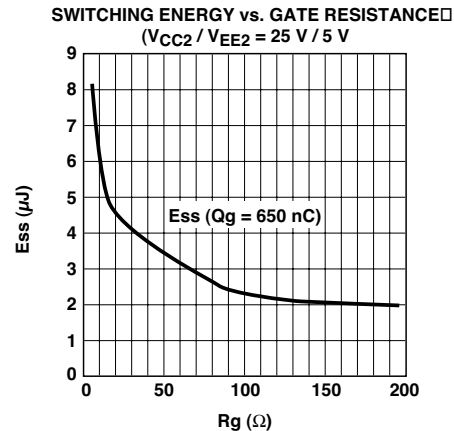

Figure 77. Switching energy plot for calculating average  $P_{switch}$  (for ACPL-516x output driving an IGBT rated at 600 V/100 A).
2. Calculate total power dissipation in the part referring to Figure 77. (Average switching energy supplied to ACPL-516x per cycle vs.  $R_G$  plot);
For  $R_G = 10.5$ , the value read from Figure 77 is  $E_{SWITCH} = 6.05 \mu\text{J}$ . Assume a worst-case average  $I_{CC1} = 16.5 \text{ mA}$  (which is given by the average of  $I_{CC1H}$  and  $I_{CC1L}$ ). Similarly the average  $I_{CC2} = 5.5 \text{ mA}$ .